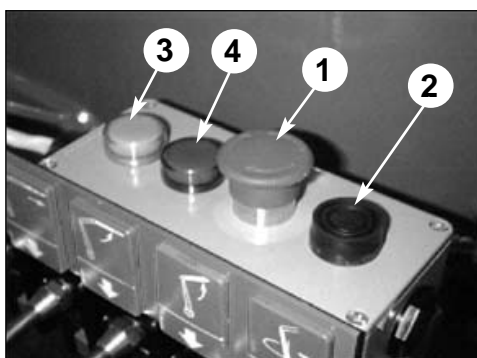

fig. 13
**Layout of the control panel positioned on the double control side** (fig.13).